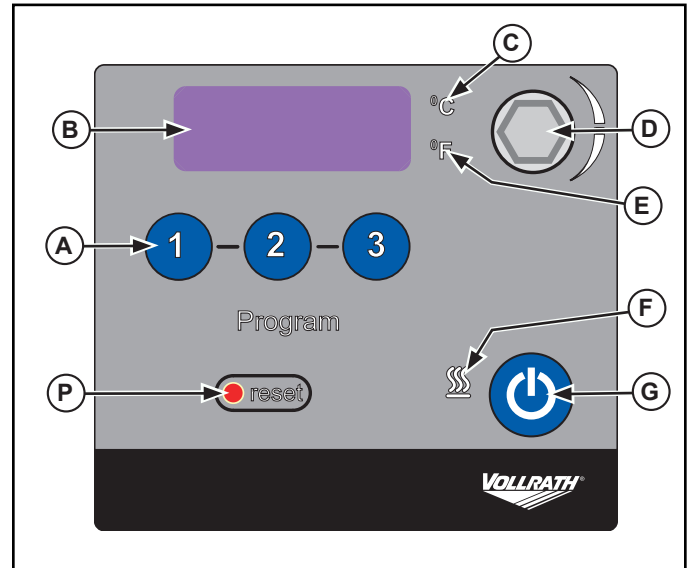
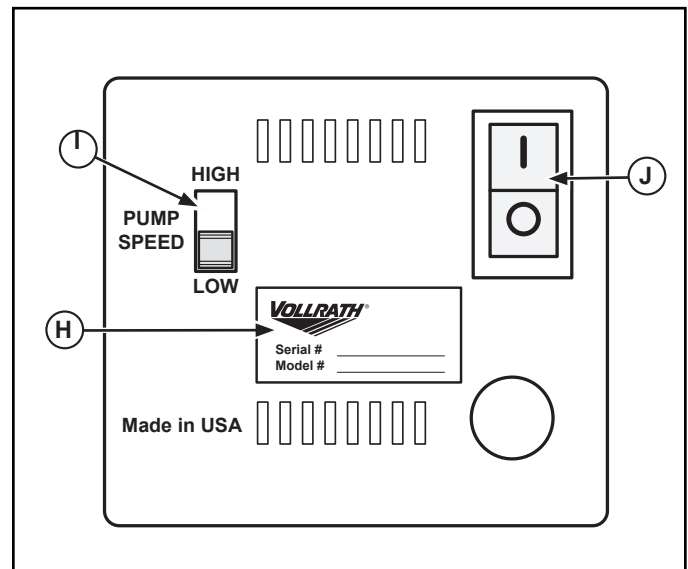

Figure 1. Front of Control Panel.
Figure 2. Back of Control Panel.
4. Switch the power switch (J) to the "ON" position. See Figure 2.
5. Set the pump speed switch (I) to the desired setting.
6. Press the controller button On/Off button (G). See Figure 1.
1. Switch the power switch (J) to the "OFF" position. See Figure 2.
2. Press and hold the "2" preset temperature (A) while switching the power switch (J) to the "ON" position. See Figures 1 and 2.
2. Press and hold the "3" preset temperature (A) while switching the power switch (J) to the "ON" position. See Figures 1 and 2.
desired preset temperature (A) button, 1, 2, or 3. A decimal on the display (B) begins to blink and recalls the previous setting. See Figure 1.
2. Rotate the select/set knob (D) until the desired temperature is displayed. Once the desired setting is reached press the select/set knob (D) a second time. Press the desired preset temperature (A) button to save the temperature to that button.
1. Press and hold the select/set knob (D) until display (B) shows "LLo" (about 10 seconds) then let go. See Figure 1. When locked, the setpoint decimal point will not flash.
2. Press and hold the select/set knob (D) again, until the display (B) shows "LLo" (about 10 seconds) then let go, to unlock the controls. Once unlocked, the display (B) will show "CAAn".
Should the water level drop below the heater the safety thermostat will activate and disconnect power from the heater and pump. The display (B) will show "FLt 3". Allow to cool and press the reset button (P). See Figure 1.
1. Press the control on/off button (G) and switch the power switch (J) to the "OFF" position. See Figures 1 and 2.